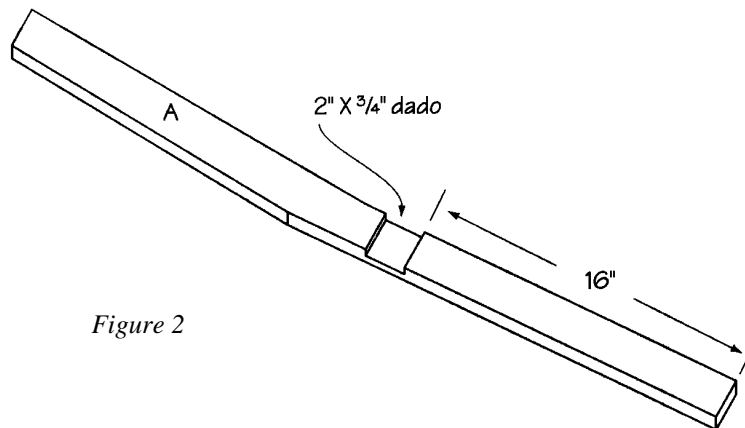

Figure 2
3. Measure 16 inches from what will be the bottom of the leg, and cut a 2-inch-wide dado, 3/4-inch deep in the leg (A), as shown in *Figure 2*.
4. Repeat Step 2 to dado the remaining back leg (A). Because the dados will be on the inside of the chair back, the second dado must be a mirror image of the dado in the first back leg (A).